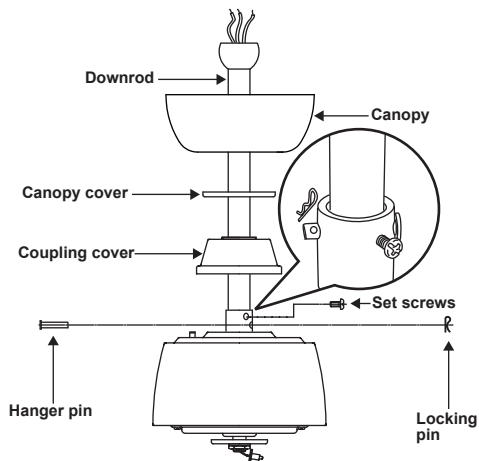

Figure 6
Step 4. Route wires exiting from the top of the fan motor through the coupling cover, canopy cover and canopy, then through the ball/downrod. (Fig. 6)
Step 5. Align the holes at the bottom of the downrod with the holes in the collar on top of the motor housing (Fig.6). Carefully insert the hanger pin through the holes in the collar and downrod. Be careful not to jam the pin against the wiring inside the downrod. Insert the locking pin through the hole near the end of the hanger pin until it snaps into its locked position, as noted in the circle inset of Fig. 6.
Step 6. Tighten two set screws on top of the fan motor firmly. (Fig. 6)